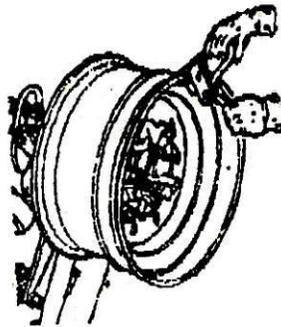

Fig2.11
- 2) You should fix the wheel circle clip in the highest place of the rim. Make sure the wheel circle clip block the wheel circle.(Fig2.11)